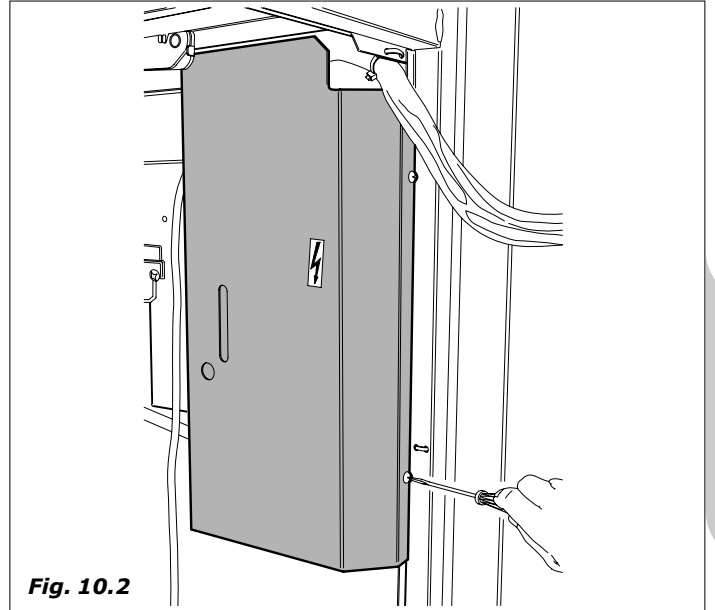

Fig. 10.2
- Dismantle the guard casing of the Antares power card (Fig. 10.2).